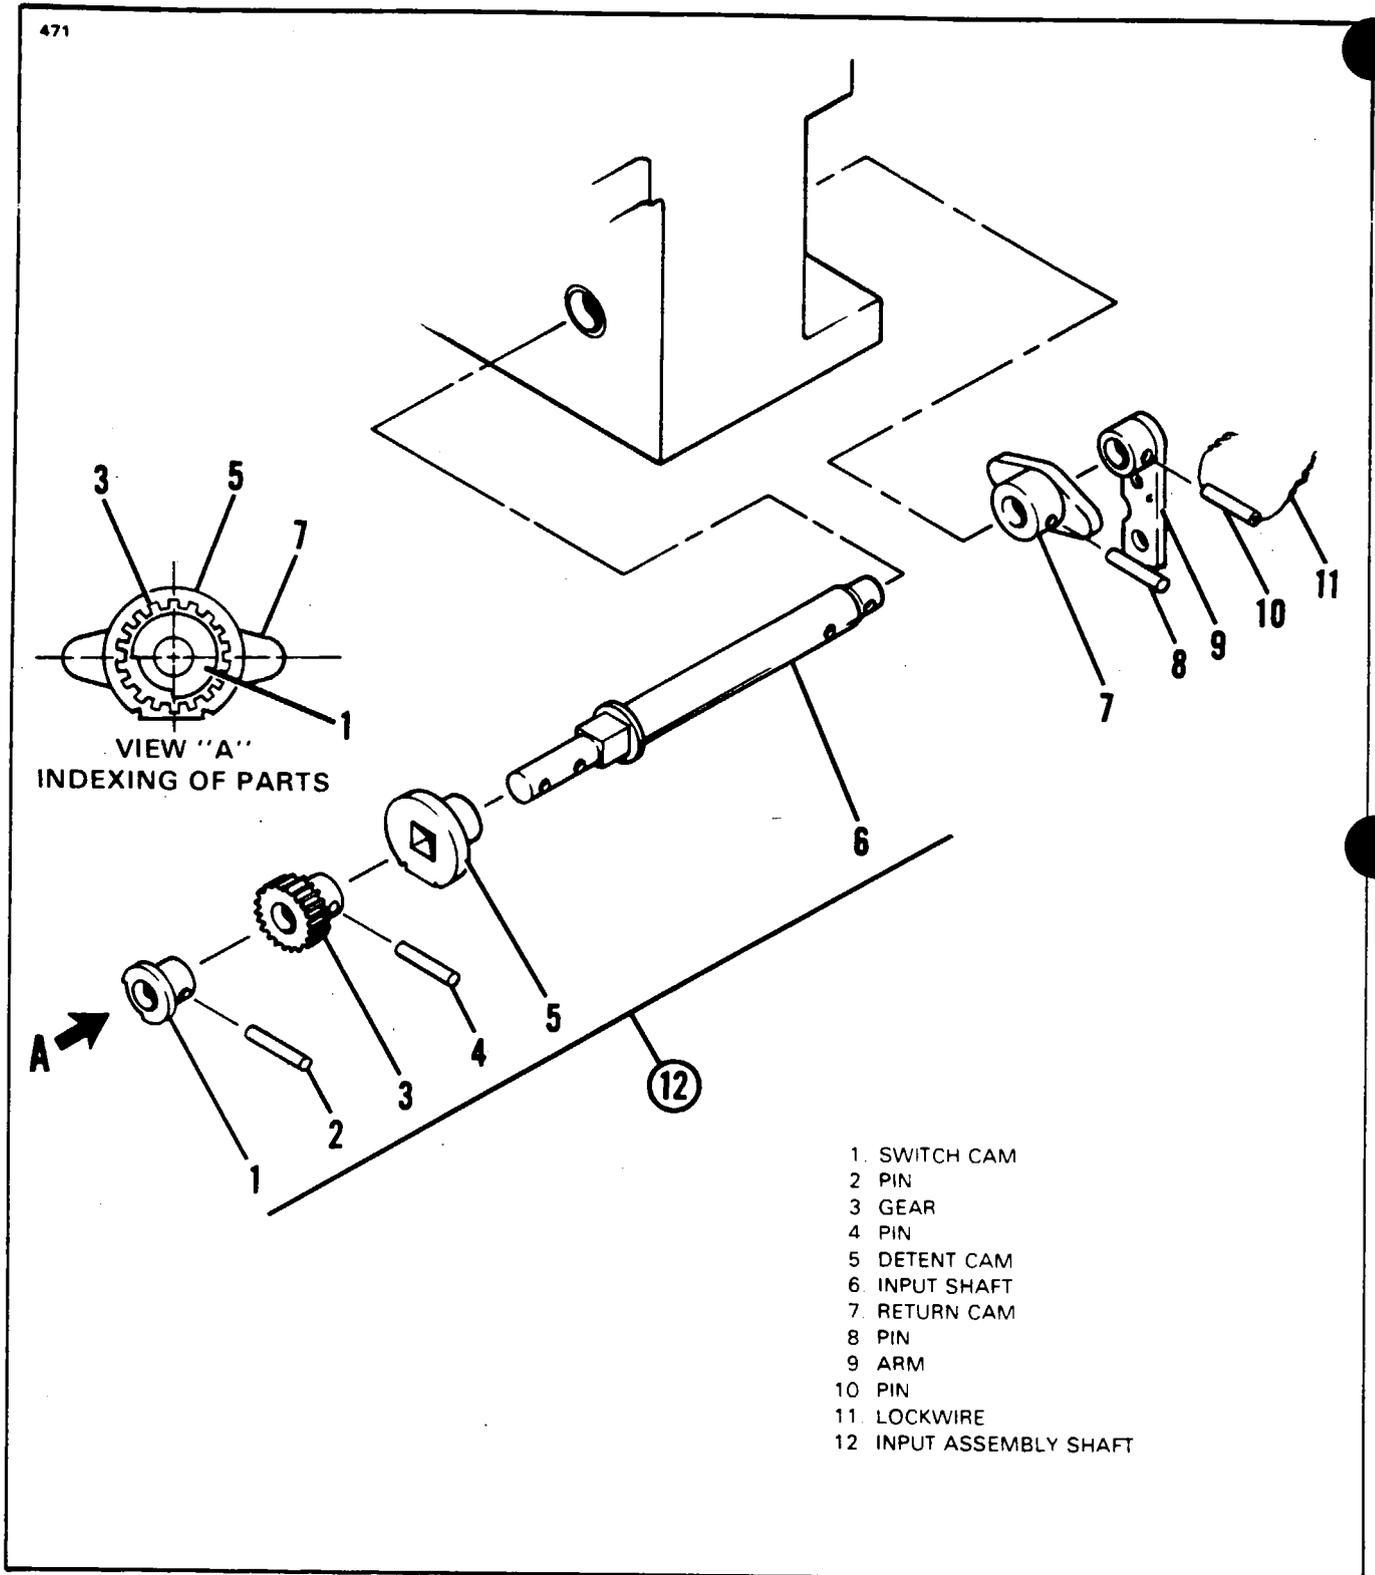

Figure 29-8. Power Pack Handle Release Mechanism - Wiebel
**POWER PACK HANDLE-RELEASE MECHANISM.** (Refer to Figure 29-8.)
1. If the switch cam, the gear and the detent cam were removed from the input shaft, then the parts must be assembled and indexed as shown in Figure 29-8. View "A."
5. Install the Power Pack control arm on the end of the shaft with the arm pointing down. Align the holes between the shaft and the arm assembly and install the roll pin. Install .041 safety wire through the roll pin and around half of the arm. Pull the twisted end of the safety wire around the other half of the arm assembly. (Refer to Figures 29-8 and 29-9.)